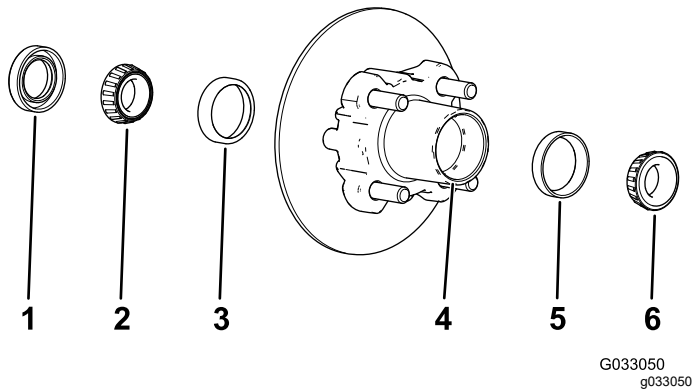

Figure 35
1. Remove the outboard bearing and bearing race from the hub (Figure 35).
2. Remove the seal, inboard bearing from the hub (Figure 35).
5. Clean the cavity of the hub of all grease, dirt, and debris (Figure 35).
7. Fill the cavity of hub 50 to 80% full of the specified grease (Figure 35).
8. Assemble the inboard bearing onto the race at the inboard side of the hub and install the seal (Figure 35).